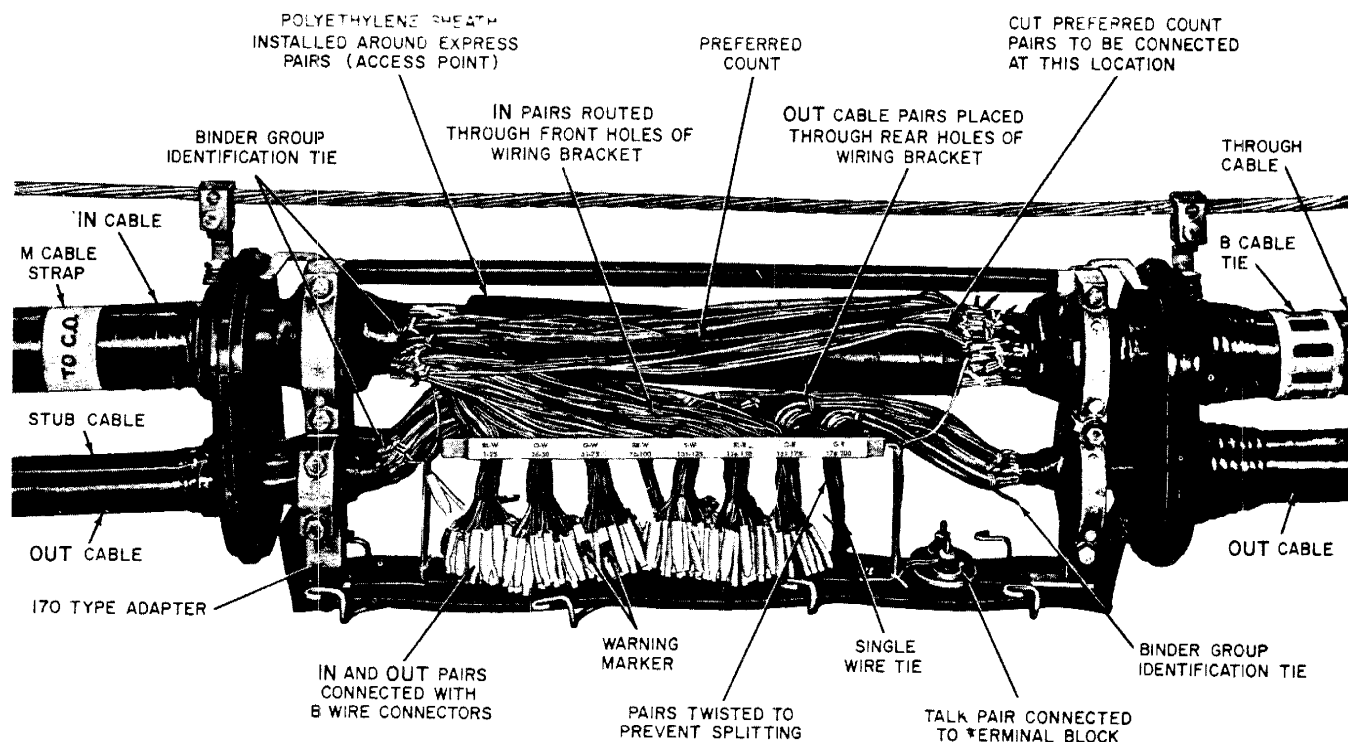

Fig. 2—1B1 Closure
- Revise Fig. 2 to include a stub cable and a 170-type adapter.
(a) **Strand-Mounted Access Point**—The 1B1 Closure (Fig. 2) is used as a strand-mounted access point.